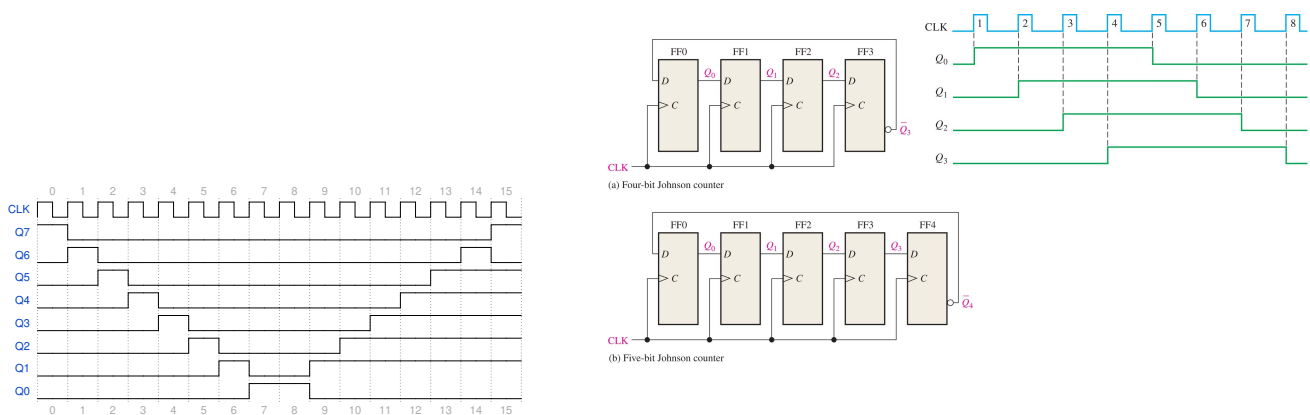

Figure 4: (Left) A waveform that repeats every 16 clock periods. (Right) Johnson counters (4 and 5-bits), and the timing diagram for the four-bit case.
- Consider the timing diagram in Fig. 4. Using any combination of *shift registers* and supporting gates, create a circuit with 8-outputs that produces this timing diagram.
- Consider Fig. 4 (right), in which 4 and 5-bit Johnson counters are depicted. (a) Create a circuit based on Fig. 4 (right) called a *combinatoric trigger*. Imagine four digital channels A, B, C, and D, as inputs. The output of the circuit should be True if *any two* of the four channels is True *within 100 ns of each other*. Develop any necessary logic symbols, and use the appropriate clock frequency. The Johnson counter(s) can have any number of bits.